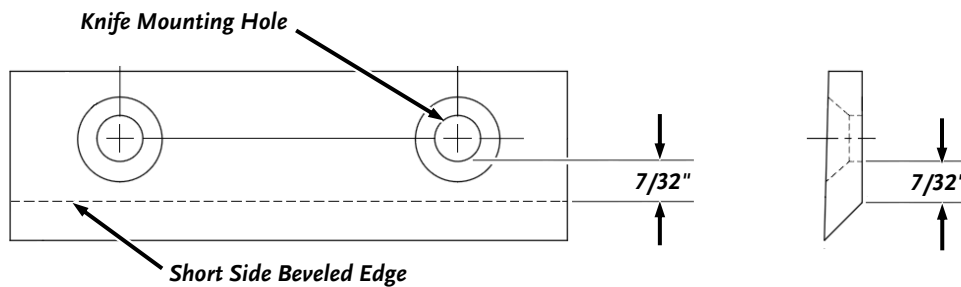

Figure 25: Sharpened Knife
- Once this measurement is below $7/32"$ (**Figure 25**), or if you are unable to remove dents or gouges with these guidelines, replace the Knife.